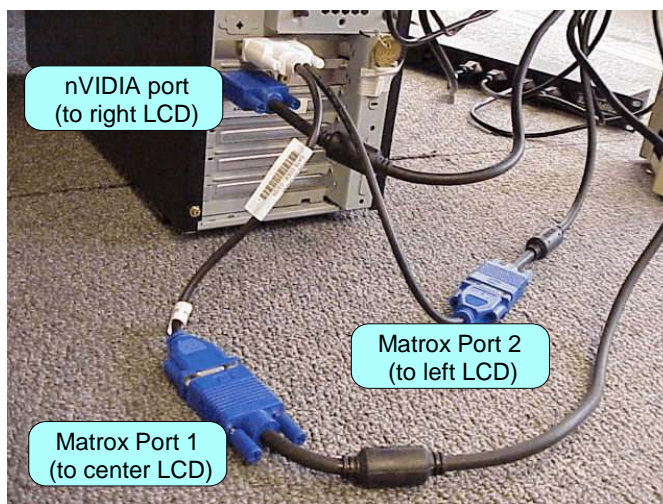

Figure 5
- i. Connect the LCDs (Figure 1) to LX1 (Figure 5) as follows: